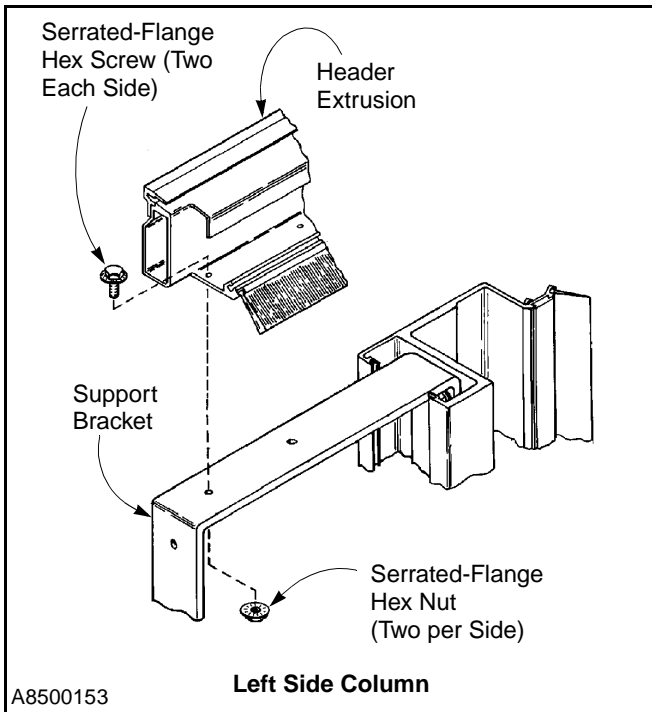

Figure 20
3. Attach the spreader assembly to the U-brackets using two $\frac{3}{8}$ -16 x $1\frac{1}{4}$ -in. serrated-flange hex screws and nuts at each end of the assembly. Face the spreader so the brush is toward the front of the door. (See Figure 20.)